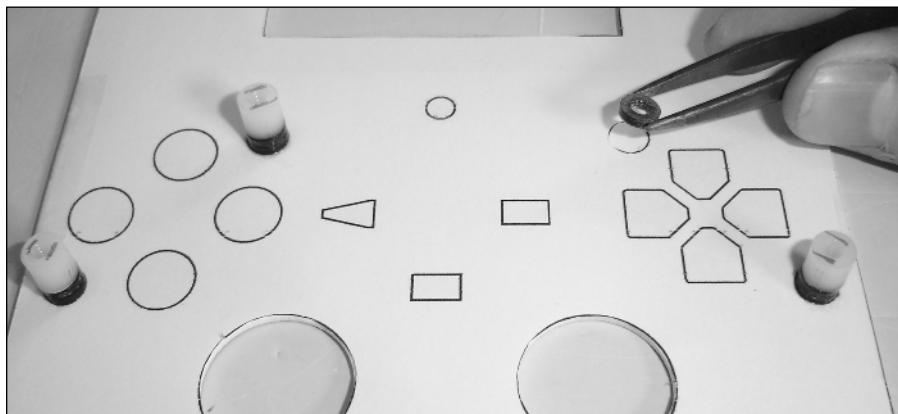

FIGURE 14-4: Gluing nylon washers and spacers into the screw post spots.
4. Use superglue to attach two size-4 nylon washers and one 1/4" nylon spacer into each of the four screw post holes, as seen in Figure 14-4 below.